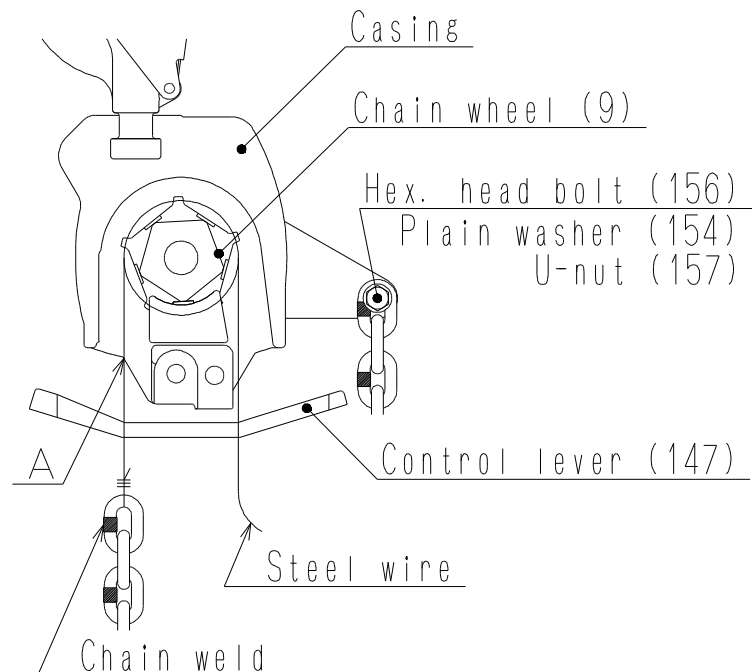

Fig.6
1. For Single Chain Fall Hoist: EHLK-1TS, Method 1 (See Fig. 6)
2. For Double Chain Fall Hoist: EHLK-2TWK, Method 1 (See Fig. 6 & 7)